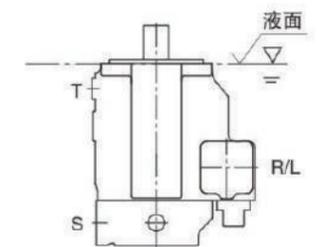

图1
a) 当油箱的最低液面与泵的法兰面等高或更高时，《R/L》口、《T》口和《S》口可开放(见图1)。
When the minimum level in the tank is as same as or larger than the height of the flange face of the pump, port R/L, T and S can be open (see Figure 1)